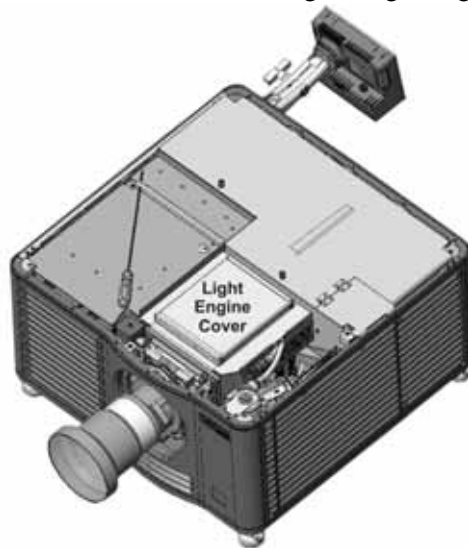

Figure 5-42 Remove Light Engine Cover
3. Using a 3mm hex key, remove the two screws securing the light engine cover (**Figure 5-42**).
3. Using a 3mm hex key, remove the two screws securing the light engine cover. See **Figure 5-42 Remove Light Engine Cover, on page 5-30**.
3. Using a 3mm hex key, remove the two screws securing the light engine cover. Refer to **Figure 5-42 Remove Light Engine Cover**, on page 5-30.
3. Remove the light engine cover. Refer to **Figure 5-42 Remove Light Engine Cover, on page 5-30**.